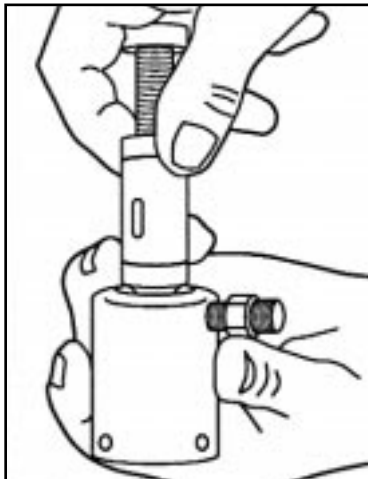

Figure 40
2. Loosen the knurled lock/setnut on top of the motor cylinder body to unscrew and remove the stroke adjuster from the motor cylinder. (Fig.40)